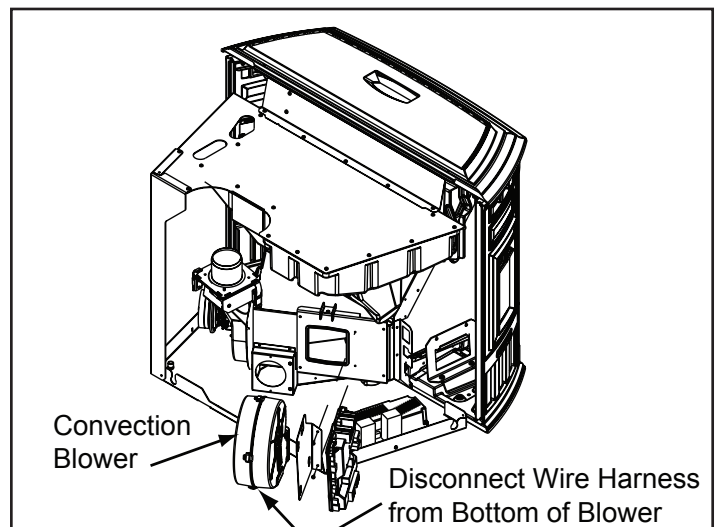

Figure 31.3
3. Disconnect the wire harness from the bottom of the blower by depressing the tabs on the sides of the connector and then pulling to remove. **Figure 31.3**.